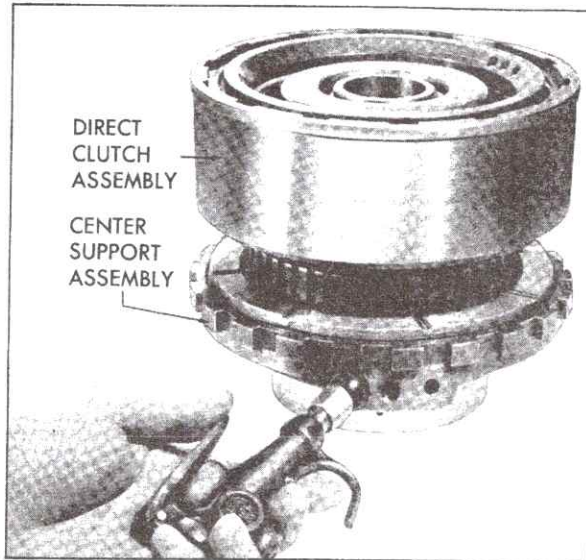

Fig. 7-72 Air Checking Direct Clutch
14. Place direct clutch assembly on center support and air check operation of direct clutch, Fig. 7-72.